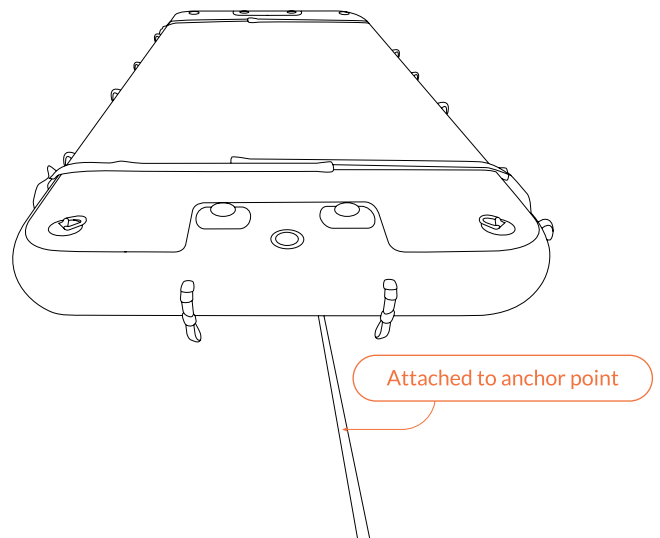

Fig 42 – Tow line attached to anchor point on underside of Platform
6. Attach a bridle to the anchor point at one end of the Platform, using a proper tow rope for this activity (Fig 42).